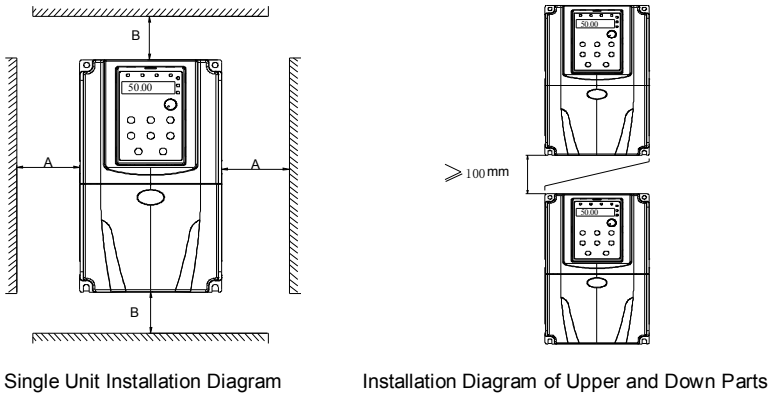

Figure 3-1 Installation Diagram
- 1) Install the inverter vertically so that the heat may be expelled from the top. However, the equipment cannot be installed upside down. If there are multiple inverters, parallel installation is a better choice. In applications where the upper and lower inverters need to be installed, please refer to Figure 3-1 “KE300 Series Inverter Installation Diagram” and install an insulating splitter.
- 2) The mounting space should be as indicated as Figure 3-1, so as to ensure the heat dissipation space of the inverter. However, the heat dissipation of other devices in the cabinet should also be taken into account.